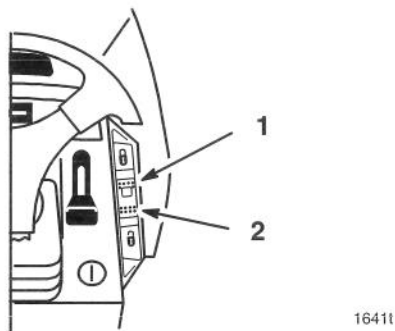

Figure 13
The cruise control is optional on some models. A 3 position: Lock-Set (spring loaded), On and Off-Unlock dash switch (Fig. 13) controls the engagement. Cruise control maintains the traction control position without foot pressure. Cruise control is intended for operation in the forward direction only. Do not use cruise control in reverse.
1. Begin driving tractor: Refer to Driving Forward or Backward, page 15. While holding your foot steady on the traction control, push the cruise control switch (Fig. 13) to the "LOCK"- "SET" position.
1. While holding your foot steady on the traction control, move the cruise control switch (Fig. 13) to the "UNLOCK"- "OFF" position.